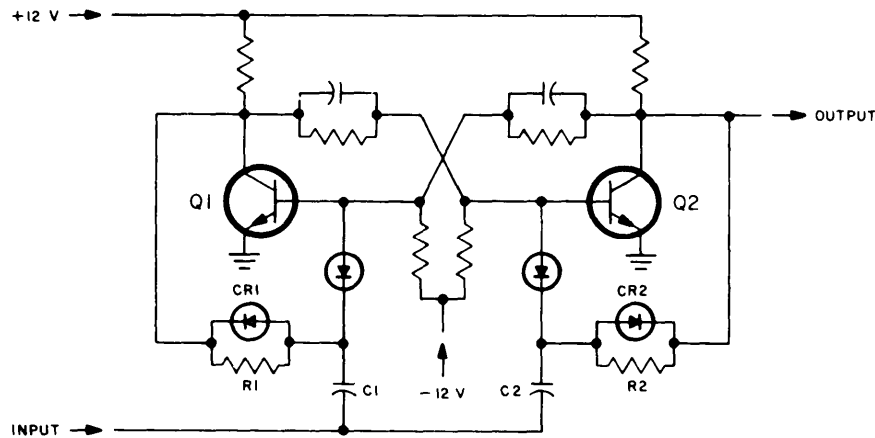

Figure 4-11. Typical Scaler Flip-Flop, Simplified Schematic Diagram
Each frequency divider consists of four hi-stable multi vibrators (flip-flops) coupled together in such a way so as to produce one output pulse for each ten input pulses. Figure 4-11 shows a typical flip-flop.
c. USEFUL ILLUSTRATIONS. - Illustrations useful in maintaining this functional section are: figures 4-11, 4-12, 4-13, 4-14, 4-15, 5-39, and 5-67.